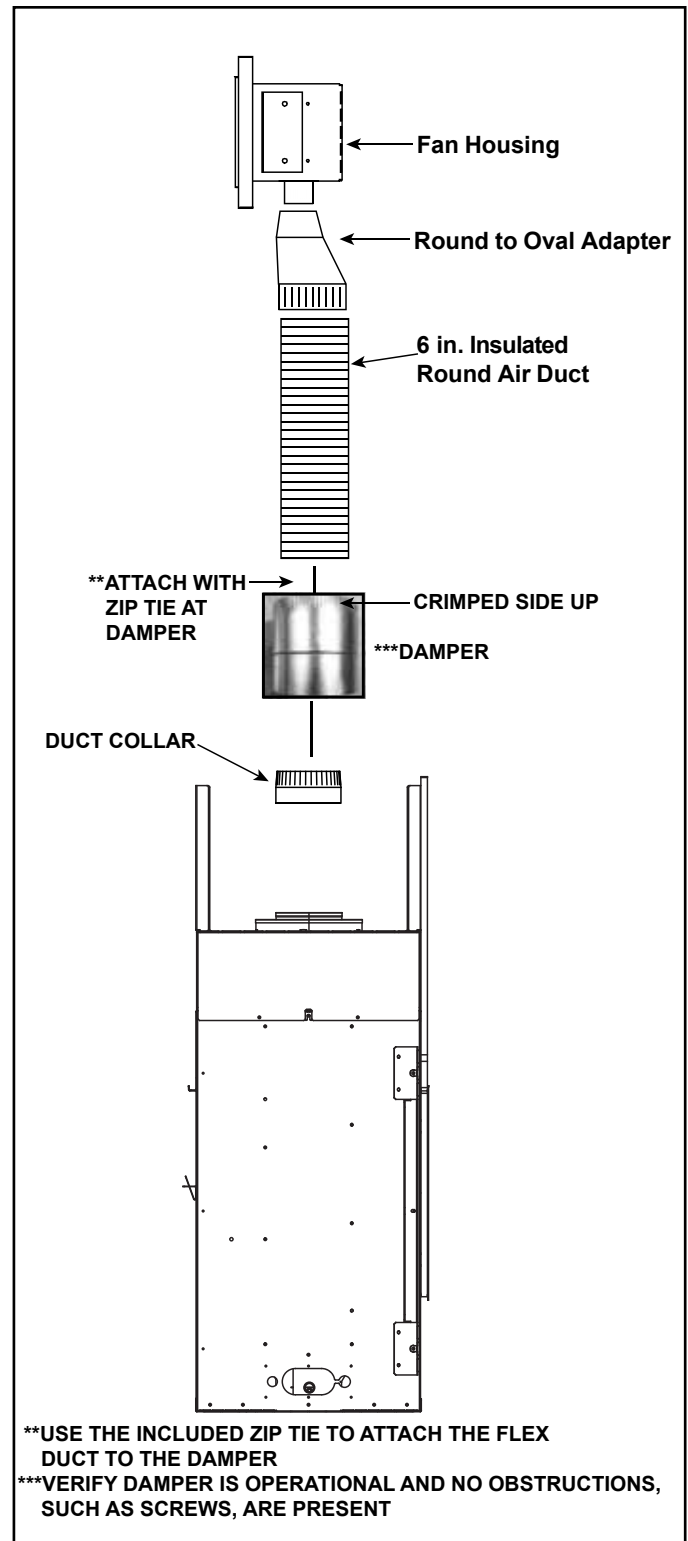

Figure 4 Assemble the Heat-Zone®-Gas Components
- Center the duct collar, included with the Heat-Zone®-Gas kit, around the open hole and attach it to the appliance with 3 screws included in the Heat-Zone®-Gas kit. See Figure 4.
- Attach damper to the Heat-Zone®-Gas duct collar with three screws. Install damper with the crimped side up. See Figure 4.
- Attach six inch duct to the damper using a zip tie. See Figure 4.